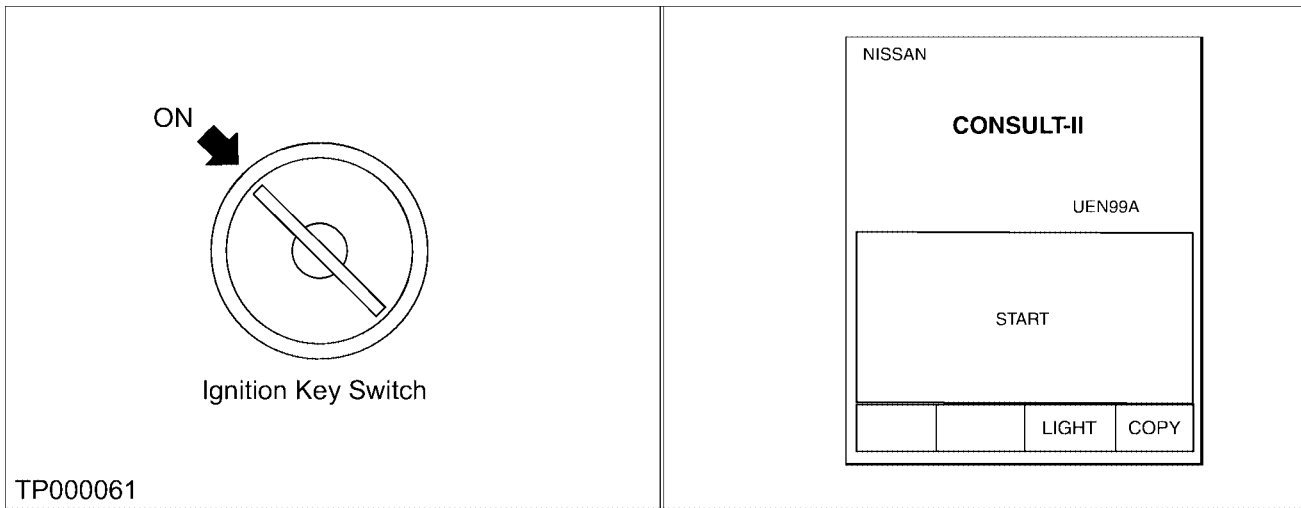

Figure 3
3. Turn the ignition switch to "ON" (do not start the engine). CONSULT-II will then turn on automatically (see Figure 3). Now touch "START".